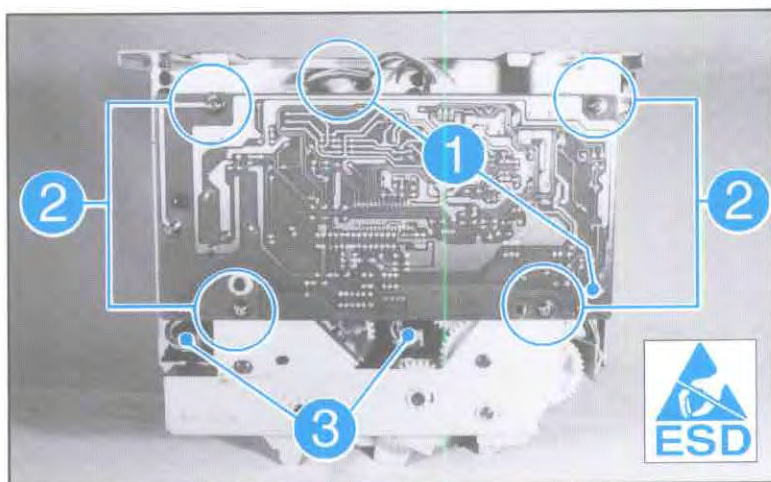

Figure 6-27. Paper Input Unit PCA
5. Unplug the (3) connectors on the component side of the PIU PCA (see Figure 6-27, callout 1). These connectors are: J302, J305, and J306.
6. Disconnect the upper and lower tray size switches (see Figure 6-27, callout 3).
7. Remove the (4) screws securing the PIU PCA and remove the PCA (see Figure 6-27, callout 2).